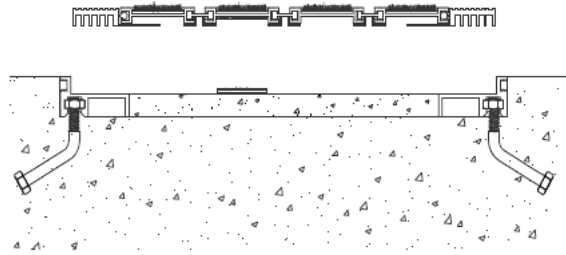

Figure 11
**STEP 18.** Select the lockdown plate. Place the lockdown plate into its installed position on the substrate, under the mat. Ensure that the lock strip on the lockdown plate is properly aligned with the flexible lock strip on the mat. Secure the lockdown plate to the floor with the fasteners provided by the factory (see Figure 11). The lock strip of the lockdown plate should fall directly under the installed flexible lock strip.